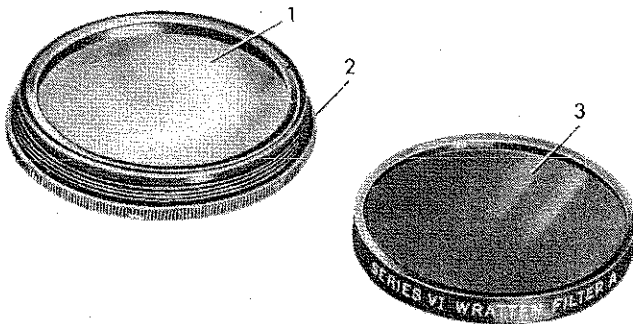

Figure 4—Filters and Insert
f. FILTERS. (See figure 4.)—Two cemented Wratten Filters, a No. 12 (Minus Blue) and a No. 25 (A), are supplied in individual plastic cases. Either filter can be mounted in the lens mount with the insert ring.